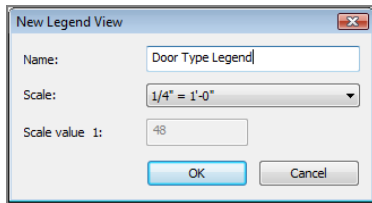

FIGURE 11.40: Choose $1/4" = 1'-0"$ (1:50mm).
2. The next dialog box wants you to specify a scale. Choose $1/4" = 1'-0"$ (1:50mm). This is fine for now (see Figure 11.40).